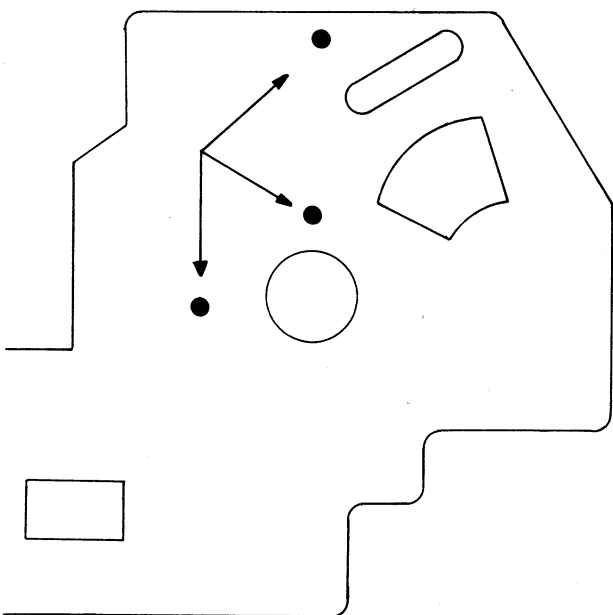

Fig 44
2. When attaching the Head Holder Assembly ((8)) and Head Presser Assembly ((13)), push them in the direction of arrow in the Fig.44.